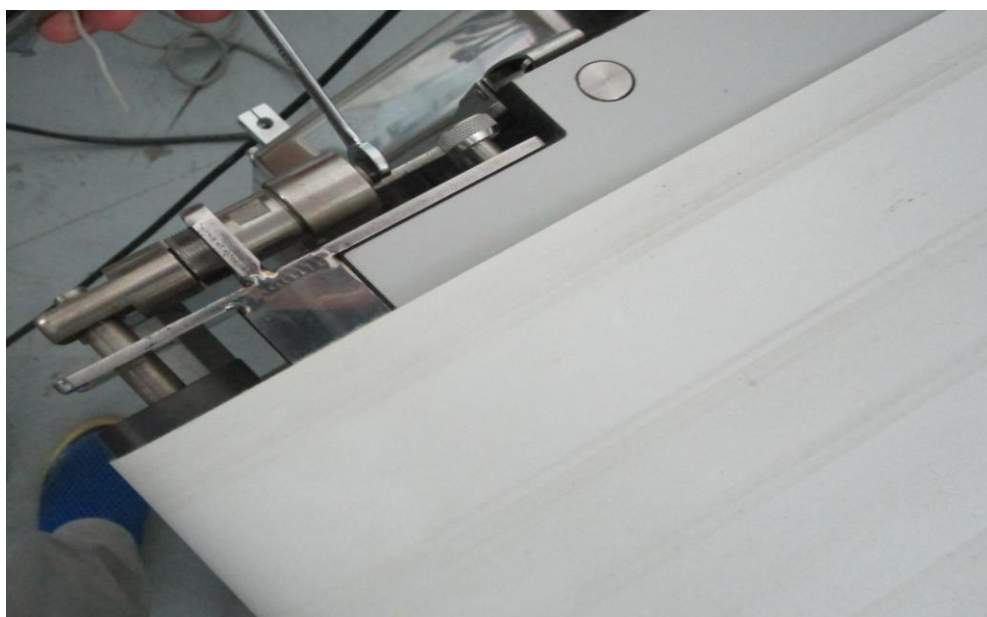

Figure 4-8 Adjusting the tension screw
8) Install the conveying device, and pay attention to keeping the installation positions of the driving roller and the driven roller the same as before the replacement. Adjust the tension screws on both sides of the conveyor unit to make the conveyor belt tight. (Figure 4-8)